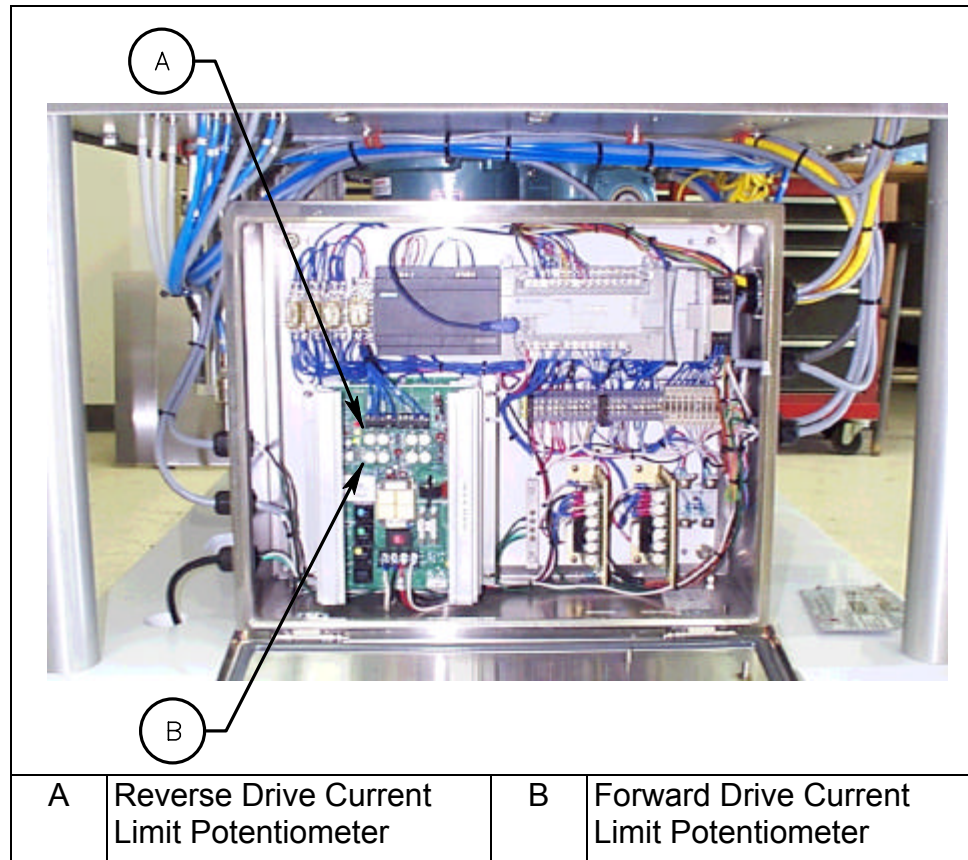

Figure 12-1: Drive Current Limit Potentiometers
4. Locate the forward and reverse drive current limit potentiometers (Figure 12-1). They are the two on the far left, with reverse above and forward below.